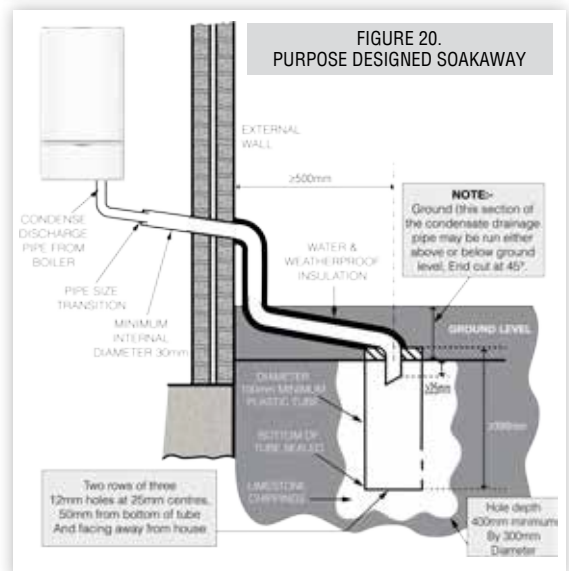

FIGURE 20. PURPOSE DESIGNED SOAKAWAY
11.10 Where the condensate drain pipe terminates in a purpose-designed soakaway (see BS 6798 or boiler installation manual for soakaway design requirements) any above-ground section of condensate drainage pipe should be run and insulated as described above. Figure 7 shows a suitable connection method. (see Figure 20).